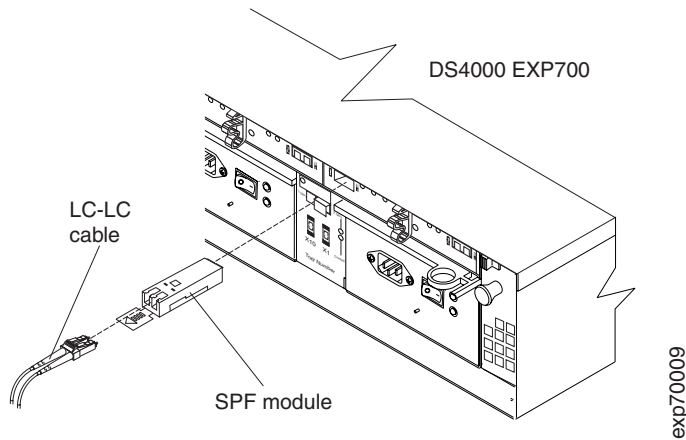

Figure 46. Installing an SFP module and connecting an LC-LC cable to the storage expansion enclosure
3. Install an SFP module in the SFP port on the back of the storage expansion enclosure; then, connect the other end of the LC-LC cable into the SFP module, as shown Figure 46.